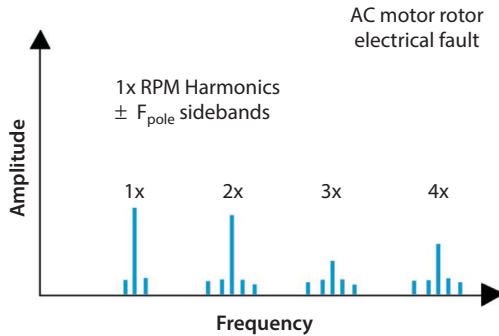

Figure 15.6 Electrical motor spectrum.
5. Look at spectrum and time waveform: Figure 15.6 shows that all the mechanical components (1X, 2X, 3X, etc.) have sidebands.